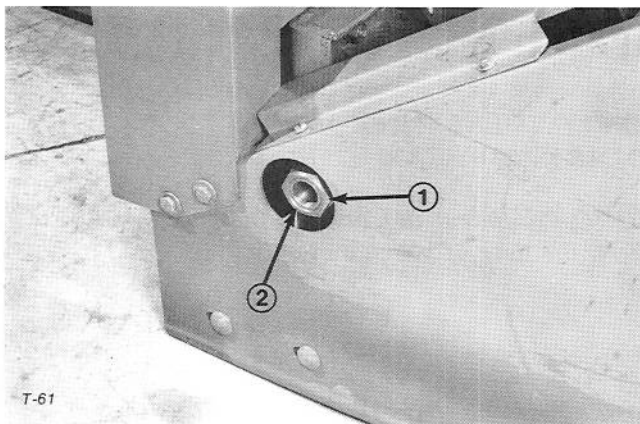

Figure 20
1. Remove the outer jam nut (Fig. 20).
Note: At start of each season, disassemble slip clutch and generously lubricate I.D. of sprocket and jaws of slip clutch with Moly EP grease. Reassemble slip clutch and tighten until outside jam nut is flush with sleeve (Fig. 20). Operate unit to check performance. If slip clutch slips excessively, tighten nuts 1/4 turn at a time until unit performs satisfactorily. Do not overtighten jam nut as the auger may not slip if an obstruction is hit.